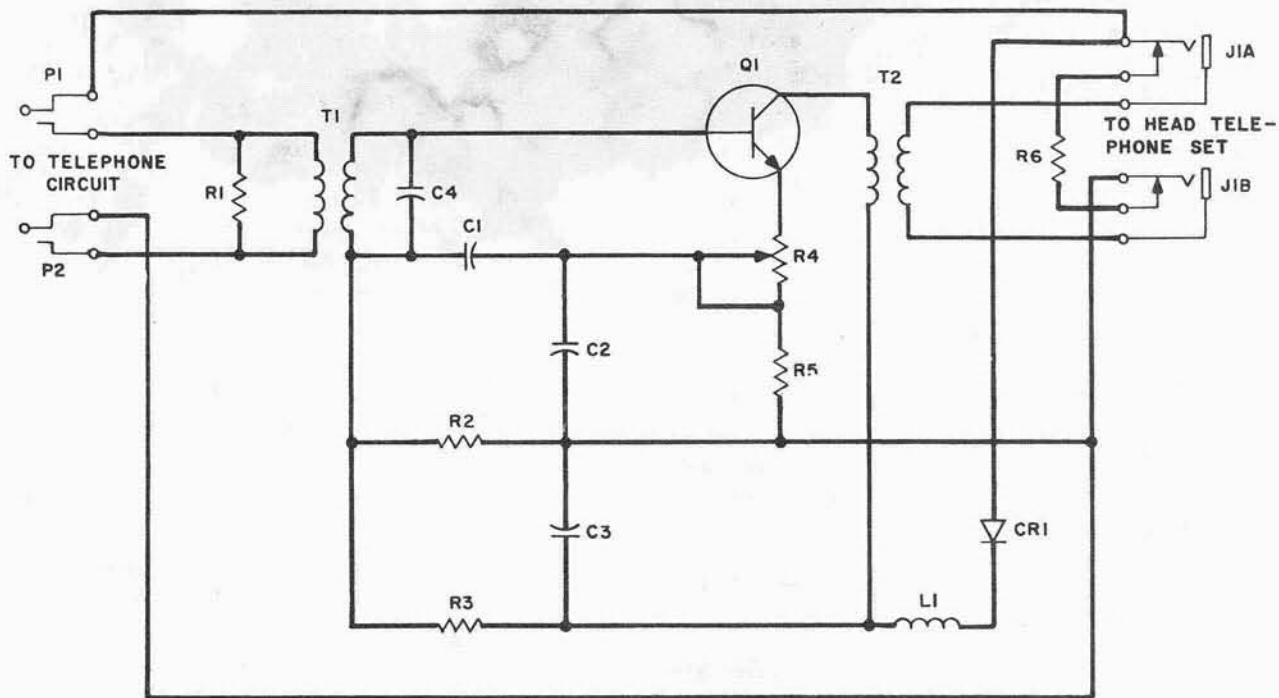

Fig. 3 – Schematic
**2.02** The amplifier circuit is as shown in Fig. 3 and has a gain from approximately -2db to +20db. The nominal gain is 20db but due to variations in transistors and other components, the gain may range from -2db at the minimum setting to +22db at the maximum setting. The required operating voltage is approximately 5 volts which is obtained from the transmitter battery supply of the telephone circuit.